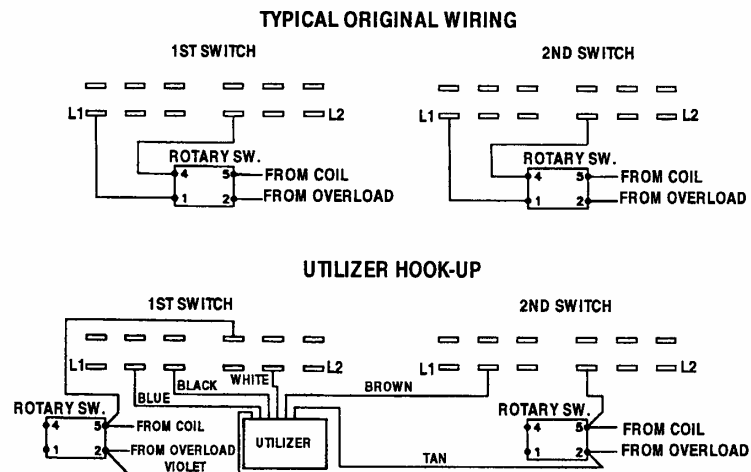

Figure 9. Hobart Rack Conveyors (without door interlocks)
1. Check the dishmachine voltage. Make sure the Utilizer III wiring matches (see Figure 9).